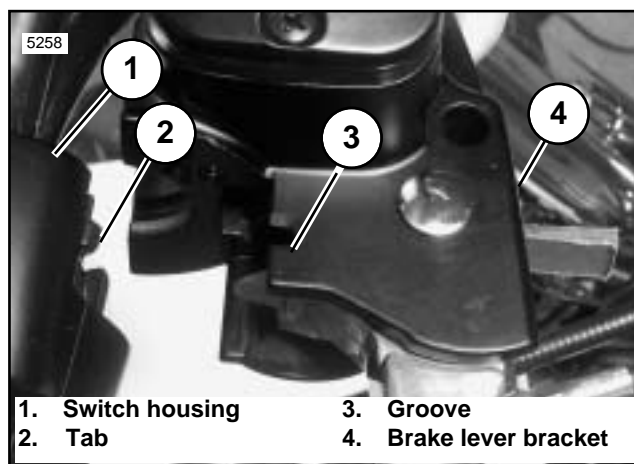

Figure 6. Fitting Master Cylinder To Switch Housing
1. See Figure 6. Position the brake lever/master cylinder assembly inboard of the switch housing assembly engaging the tab on the lower switch housing in the groove at the top of the brake lever bracket.